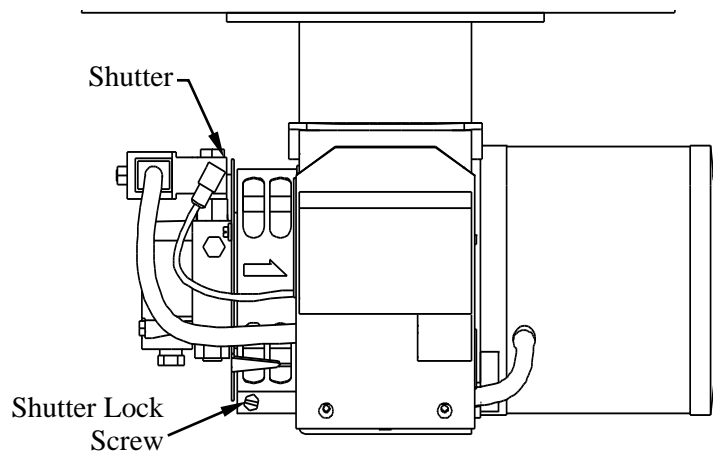

Figure 13
- a. Locate the shutter as shown in Figure 13 below. The shutter is a thin circular metal plate located on the outside of the air band. The shutter adjusts independently from the air band and is used to fine-tune the amount of intake air.